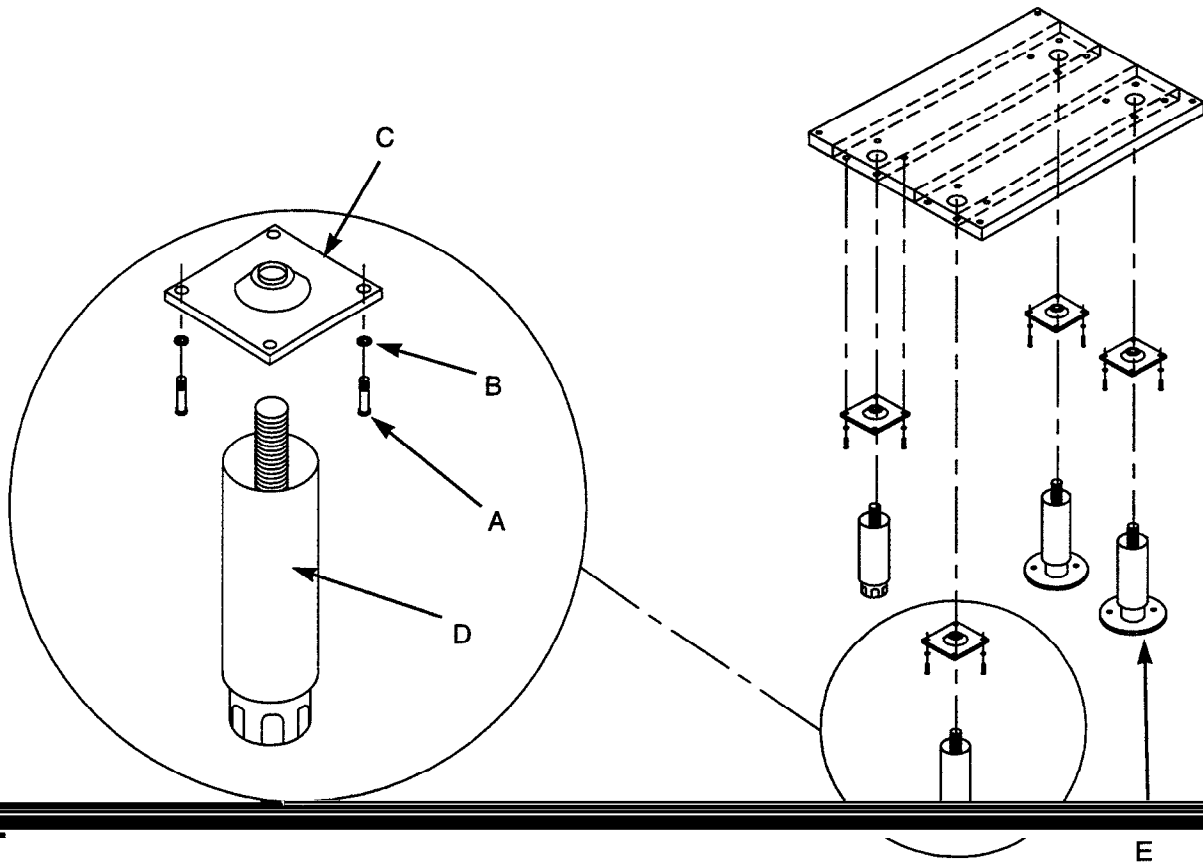

FIGURE 1
2. Shipped with every unit should be a leg package containing four legs. Two of which will have flanges for bolting them to the floor. These legs are to be installed on the rear of the unit. These are labeled (Item "E") in figure 1. The other adjustable legs are to be installed on the front of the unit.
3. Leg pads (Item "C") in figure 1 have already been installed on the bottom of the unit. To install legs simply screw them into the unit.